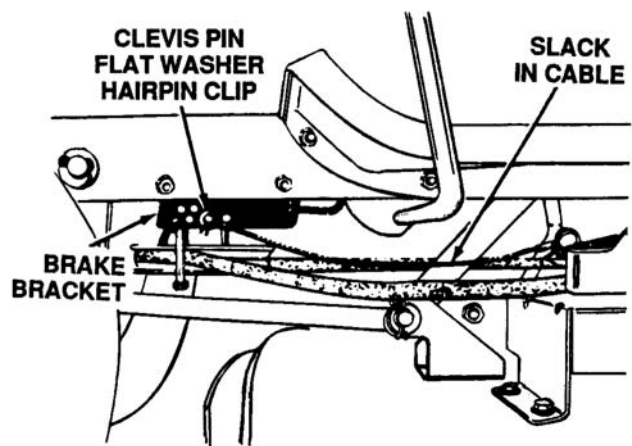

Figure 8-5. Connecting the Brake Cable
- b. Pull brake cable toward the front of the tractor and line it up with a hole in the brake bracket. Attach cable to the next hole toward the rear of the tractor using clevis pin, flat washer 1/4 inch ID and hairpin clip. There should be some slack in the cable as shown. See Figure 8-5.